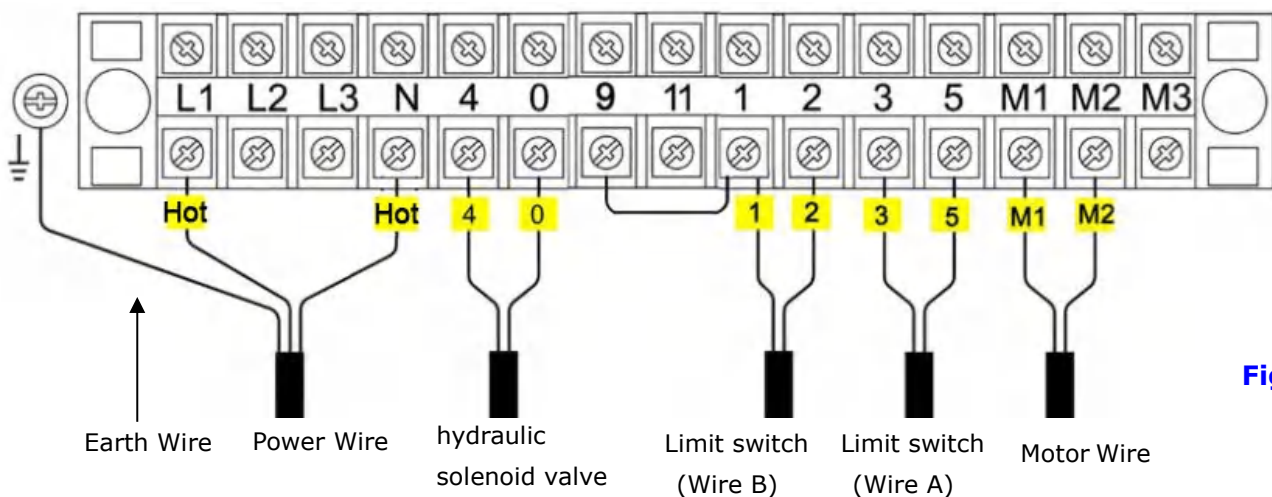

Fig. 15
1.1 Connect the power wire and limit switch wire according to the wiring diagram (See **Fig. 15**).